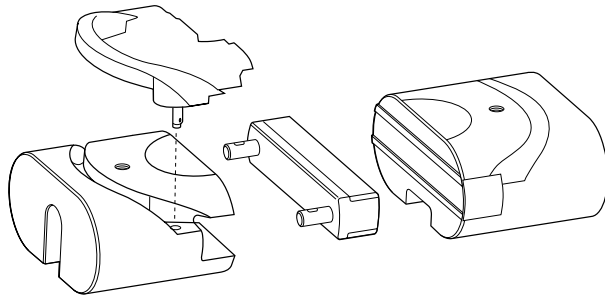

Figure WC-4: Blind rams. IADC drawing.
- Blind rams: Rubber sealing element is flat and can seal the wellbore when there is nothing in it, i.e., “open hole” (**Figure WC-4**);